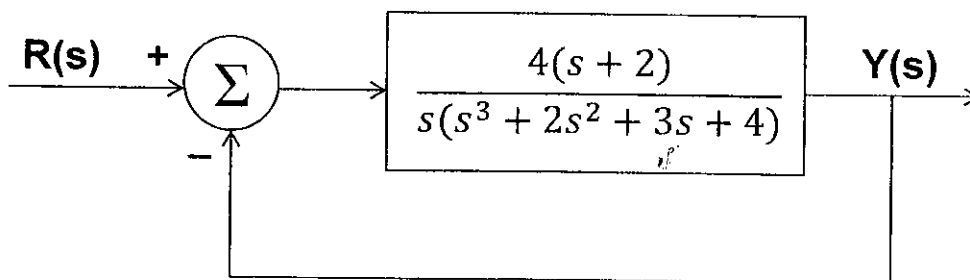

Figure Q2(b)
- b) Consider the system shown in Figure Q2(b). Use Routh's stability criterion to determine whether the system is stable or not. If the system is unstable, find how many roots have positive real parts. [3.5 Marks]